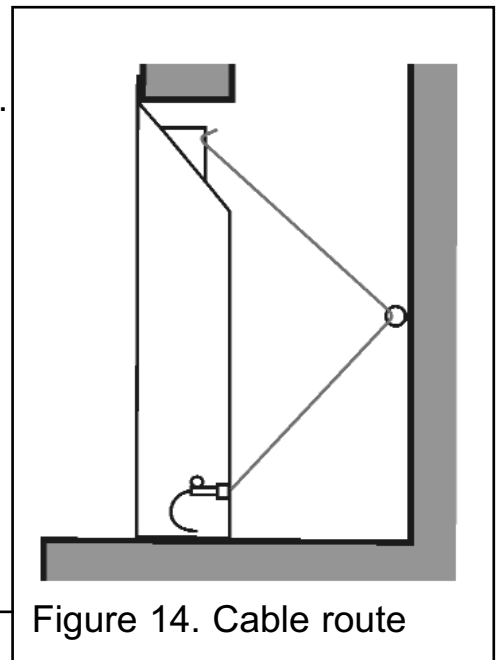

Figure 14. Cable route
6. Thread the cables through the eyebolts. Return the cables through the holes near the bottom of the hotbox side panels (See figure 14).